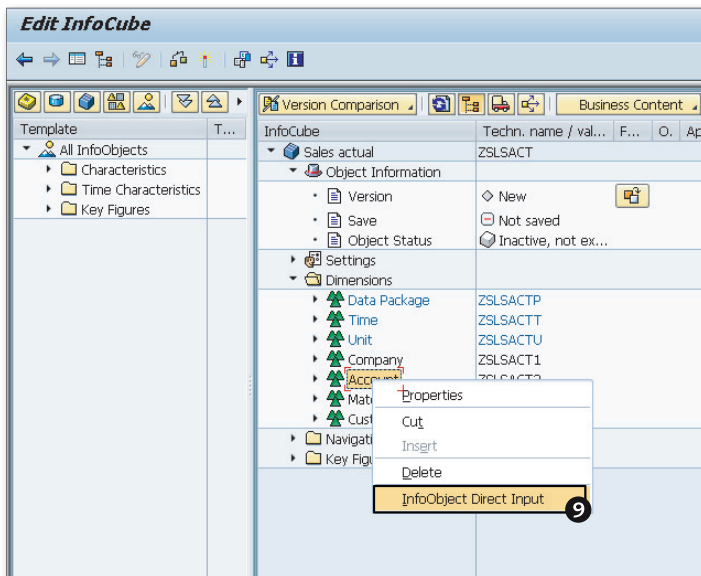

Figure 3.17 Create InfoCube—Part D
1. Right-click on the DIMENSIONS or KEY FIGURES folder, and select INFOOBJECT DIRECT INPUT (Figure 3.17, 9).